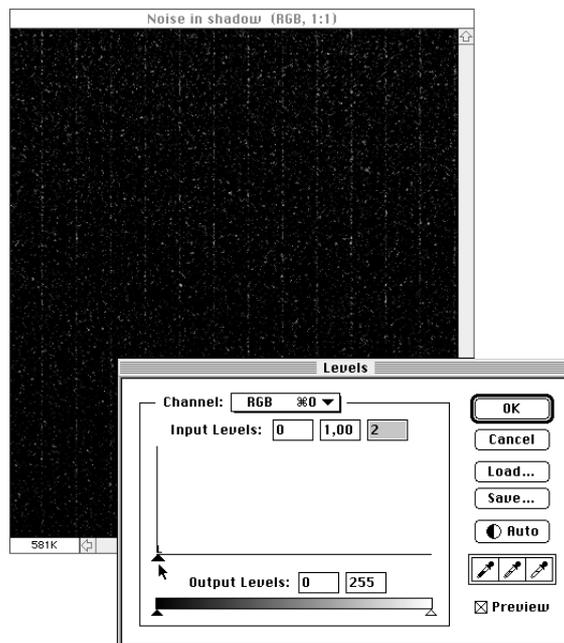

Fig. 2
- 11 • Fig. 2 shows an example of stripes in shadow when the black marker level is between 0 and 1. If there are stripes on the screen after steps 9 and 10, contact ScanView's support department.